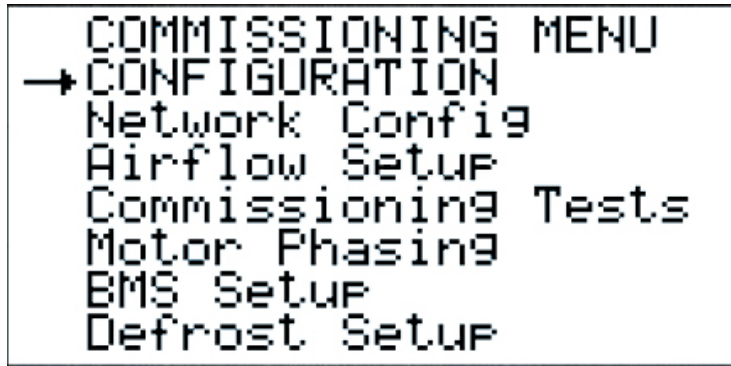

Figure 21
4.3.4.1 Commissioning (Figure 21)
Selecting COMMISSIONING from the Service Menu displays the COMMISSIONING MENU (Figure 21). This menu allows the operator to select the Configuration, Network Config, Airflow Setup, Current Conditions, Commissioning Tests, Motor Phasing and BMS Setup.
Selecting the CONFIGURATION from the Commissioning Menu displays the BLOWER SETUP screen (Figure 21). The blower can be set for either CONTINUOUS or AUTOMATIC. Only set the blower to automatic if a wall mount sensor is used. Press the **DOWN** key for the next Configuration screen.